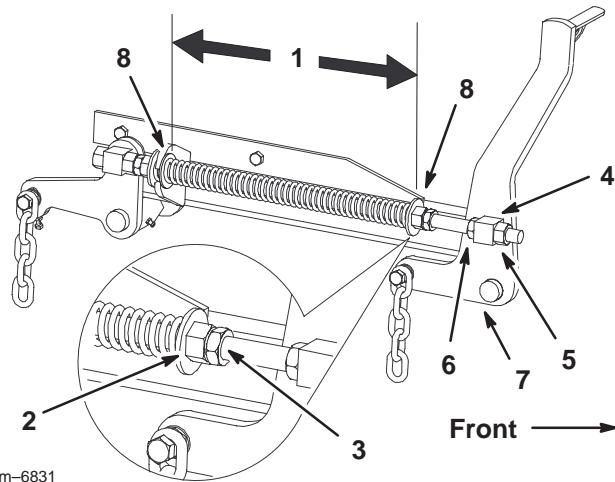

Figure 72
7. Loosen the front swivel jam nuts, at the front of the right and left swivels, approximately a 1/2 inch (13 mm) (Fig. 72).
8. Adjust the lift nuts on both the left and the right side of the machine to achieve **1/4 to 3/8 inch (6 to 10 mm) lower in front at A than in the rear at B** (Fig. 72).
1. Raise the mower lift lever to the transport position (Fig. 72).
2. Check the distance between the two large washers, it needs to be 11-1/8 inches (28.3 cm) (Fig. 72).
3. Adjust this distance, by loosening the spring jam nut and turning the nut in front of each spring (Fig. 72). Turning the nut clockwise will shorten the spring; counter-clockwise will lengthen the spring.
4. Lock the nut into position by tightening the spring jam nut (Fig. 72).